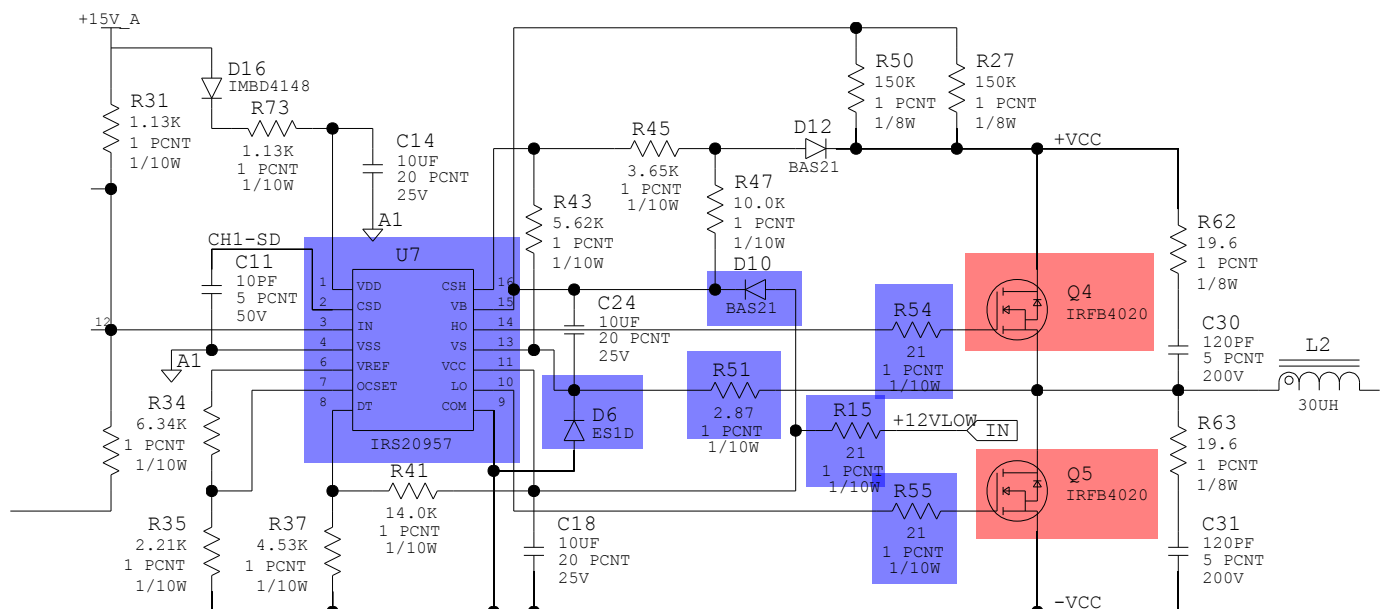

Figure 9.8 - Components to replace and/or check in the event of an amplifier section MOSFET failure.
- Use the highlighted schematic in Figure 9.8 as a component check guide. Replace components in red and check components in blue.